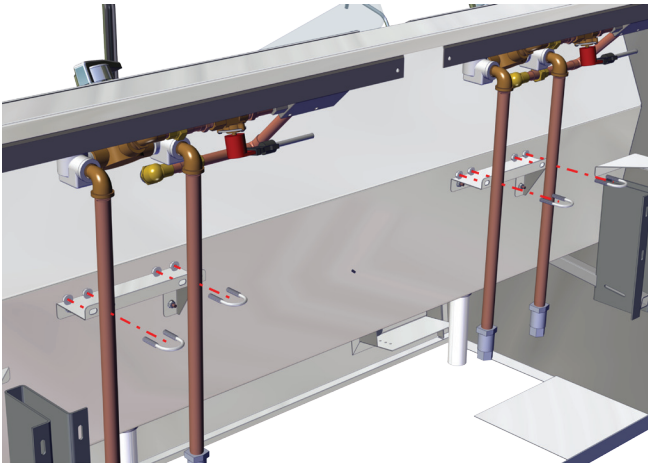

Fig. 15: Re-attach U-bolts/nuts
13. Re-attach the 4 U-bolts to the water pipes and secure to their brackets with the nuts (Fig. 15).